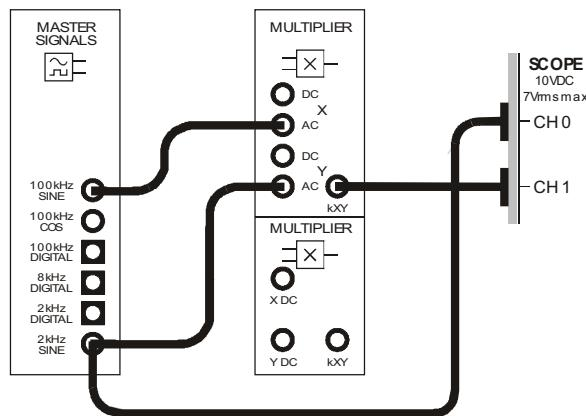

Figure 4
8. Launch and run the NI ELVIS II Oscilloscope virtual instrument (VI).
12. Connect the set-up shown in Figure 4 below.